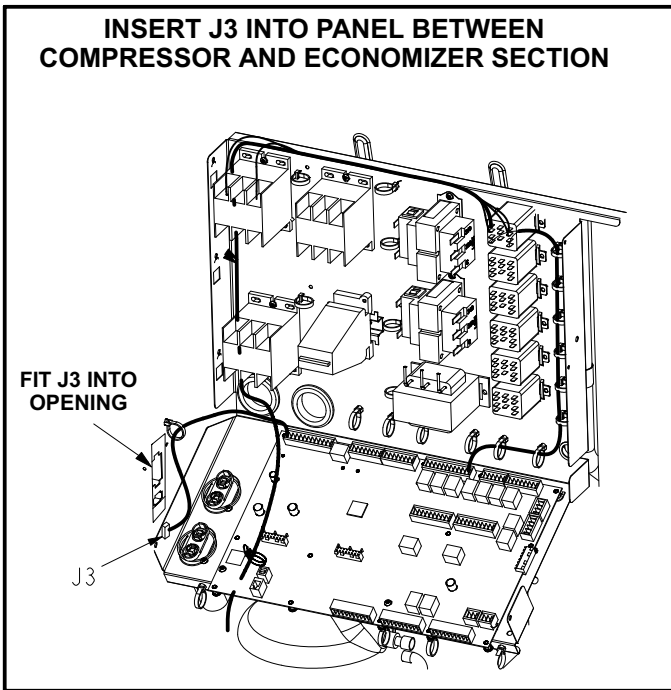

FIGURE 3
- 8- Connect J262A connector to P262 as shown in figure 2. Insert J3 from J262A harness into opening in unit wall as shown in figure 3.